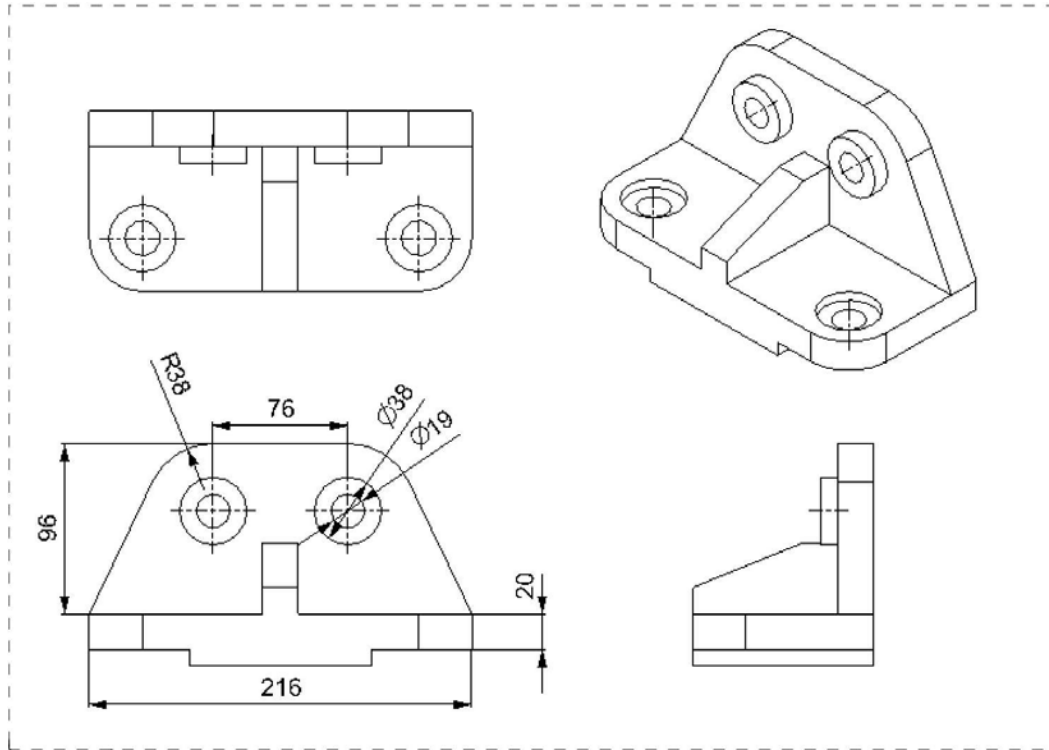

Figure 12-65 The drawing view after creating the dimensions and placing them in the proper position
6. Choose the **Rapid** tool from the **Dimension** group; the **Rapid Dimension** dialog box is displayed and you are prompted to select the first object for rapid dimension. Select the bottom left endpoint and then select the bottom right endpoint of the front view; a floating dimension measuring **216** is attached to the cursor and you are prompted to specify the origin. Drag the cursor below the front view and click at the desired location to place the dimension. Similarly, place other dimensions as shown in Figure 12-65 using the **Rapid** tool. The front view after adding the required dimensions should look similar to the one shown in Figure 12-65.